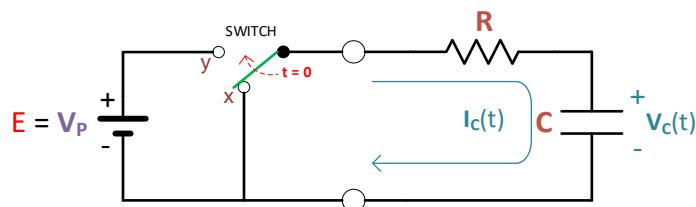

Figure 2.0a: R-C circuit with step voltage source
- (i) Referring to the **R-C** circuit shown in **Figure 2.0a**, assume the switch has been in position “**x**” long enough so that the capacitor is fully discharged. At time  $t = 0$ , the switch is abruptly moved to position “**y**” connecting the circuit to the voltage source, thereby creating a step-input voltage of **VP**. It stays in this position long enough for the capacitor to be fully charged and beyond. Recall, since the voltage across the capacitor does not change instantaneously, then **VC(t)** becomes a more convenient variable to characterize the transient response in the “*charging*” phase than **IC(t)**.
**Note:** Use of this type of square-wave is equivalent to sequentially “opening” and “closing” the switch in the circuit of **Figure 2.0a**. The period of the square-wave waveform specified would be much longer than the time constant,  $\tau$  of the circuit to allow the transient response of the circuit to reach its steady state between successive waveform transitions. The upper half of the waveform represents a **step-input** to invoke “charging” phase (*forced-response*), while the lower half of the waveform will represent “discharging” phase (*natural response*).